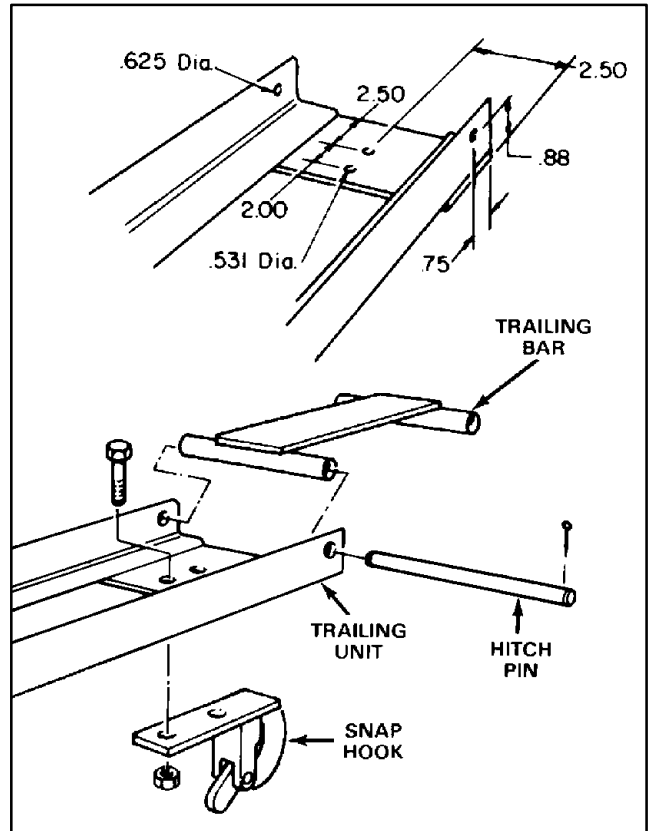

Figure 6
1. Locate and drill required mounting holes in trail-mg units and wing units (Fig. 6 & 7).
2. Install kit parts to trailing unit by mounting trailing bar to rear of frames with hinge pin and (2) cotter pins. Secure snap hook to underside of frame with (2) capscrews and locknuts (Fig. 6).